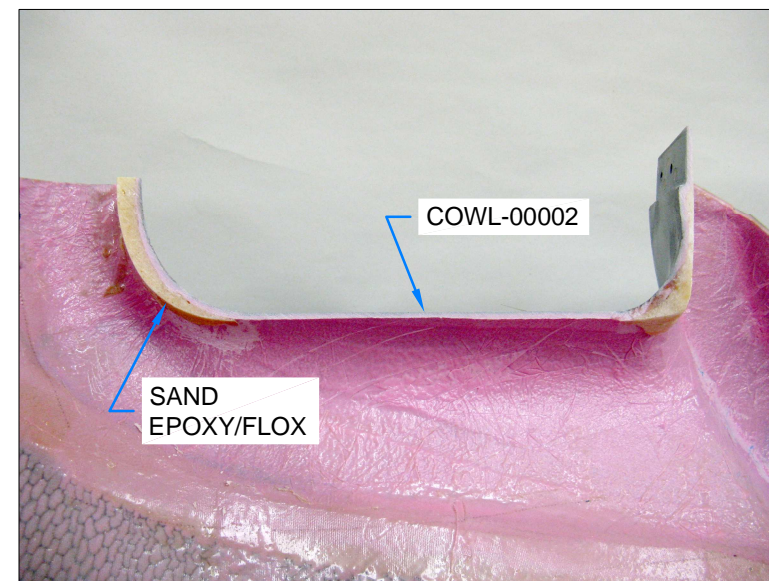

FIGURE 3: SAND FLUSH - LEFT
Step 7: Sand away any epoxy/flox that projects beyond the aft edges of the bottom cowl air inlets as shown in Figure 3 and Figure 4.